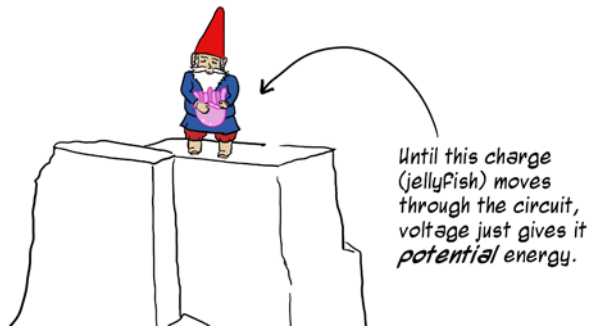

Figure 3.2 Voltage is potential energy.
*Voltage* is a measurement of the difference of potential energy between two points. It's something like pressure or tension or gravitational force, as electricity is always itching to move from higher voltage to lower voltage. Voltage, measured in volts, is *potential* energy, but voltage alone, without moving charged electrons (jellyfish), can't wreak any havoc (figure 3.2).